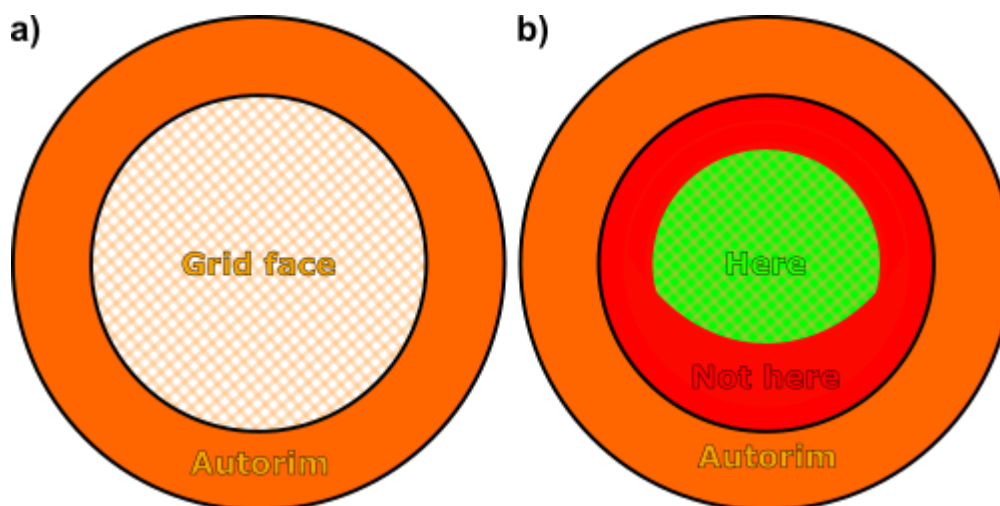

Figure 1 Schematic of grids showing a) the whole grid face and b) the region for lamellae milling
- Keep within the green area of the grid (Figure 1)